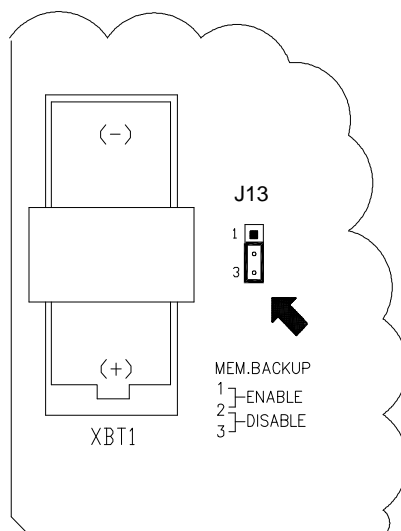

Figure 101: Lithium Battery Backup Enable/Disable
4. Disable the memory backup, J13 (Figure 101:) by moving the pin jumper to pins 2 and 3.
9. Enable the memory backup J13 (Figure 101:), by moving the pin jumper to pins 1 and 2.
3. Move the memory backup jumper to pins 1 and 2 at J13 (Figure 101:).